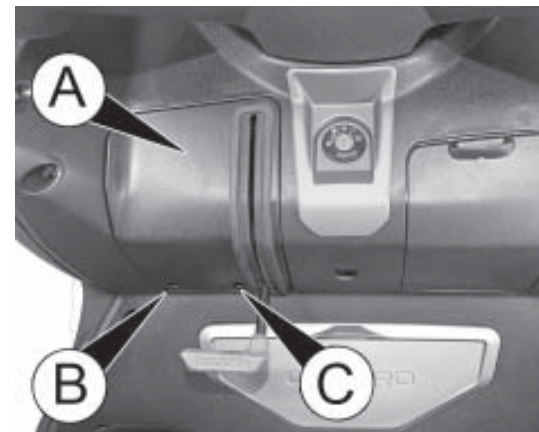

fig. 8
- Remove cover A fig. 8 by unscrewing screws B and C